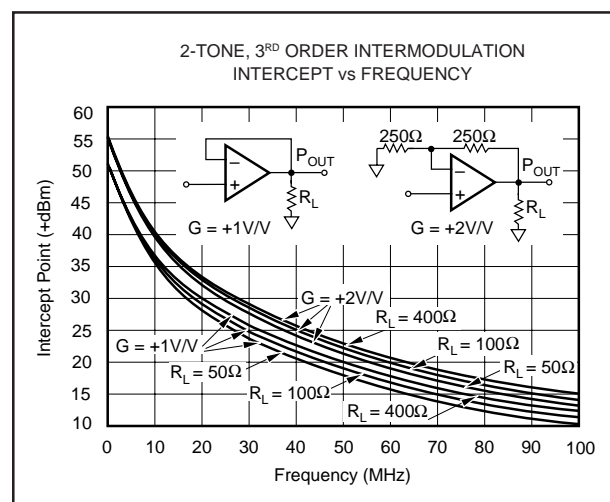

FIGURE 9. 2-Tone, 3rd Order Intermodulation Intercept vs Frequency.
Two-tone third-order intermodulation distortion (IM) is an important parameter for many RF amplifier applications. Figure 9 shows the OPA620's two-tone third-order IM intercept vs frequency. For these measurements, tones were spaced 1MHz apart. This curve is particularly useful for determining the magnitude of the third-order IM products as a function of frequency, load resistance, and gain. For example, assume that the application requires the OPA620 to operate in a gain of +2V/V and drive 2Vp-p (4dBm for each tone) into 50Ω at a frequency of 10MHz. Referring to Figure 9 we find that the intercept point is +40dBm. The magnitude of the third-order IM products can now be easily calculated from the expression: